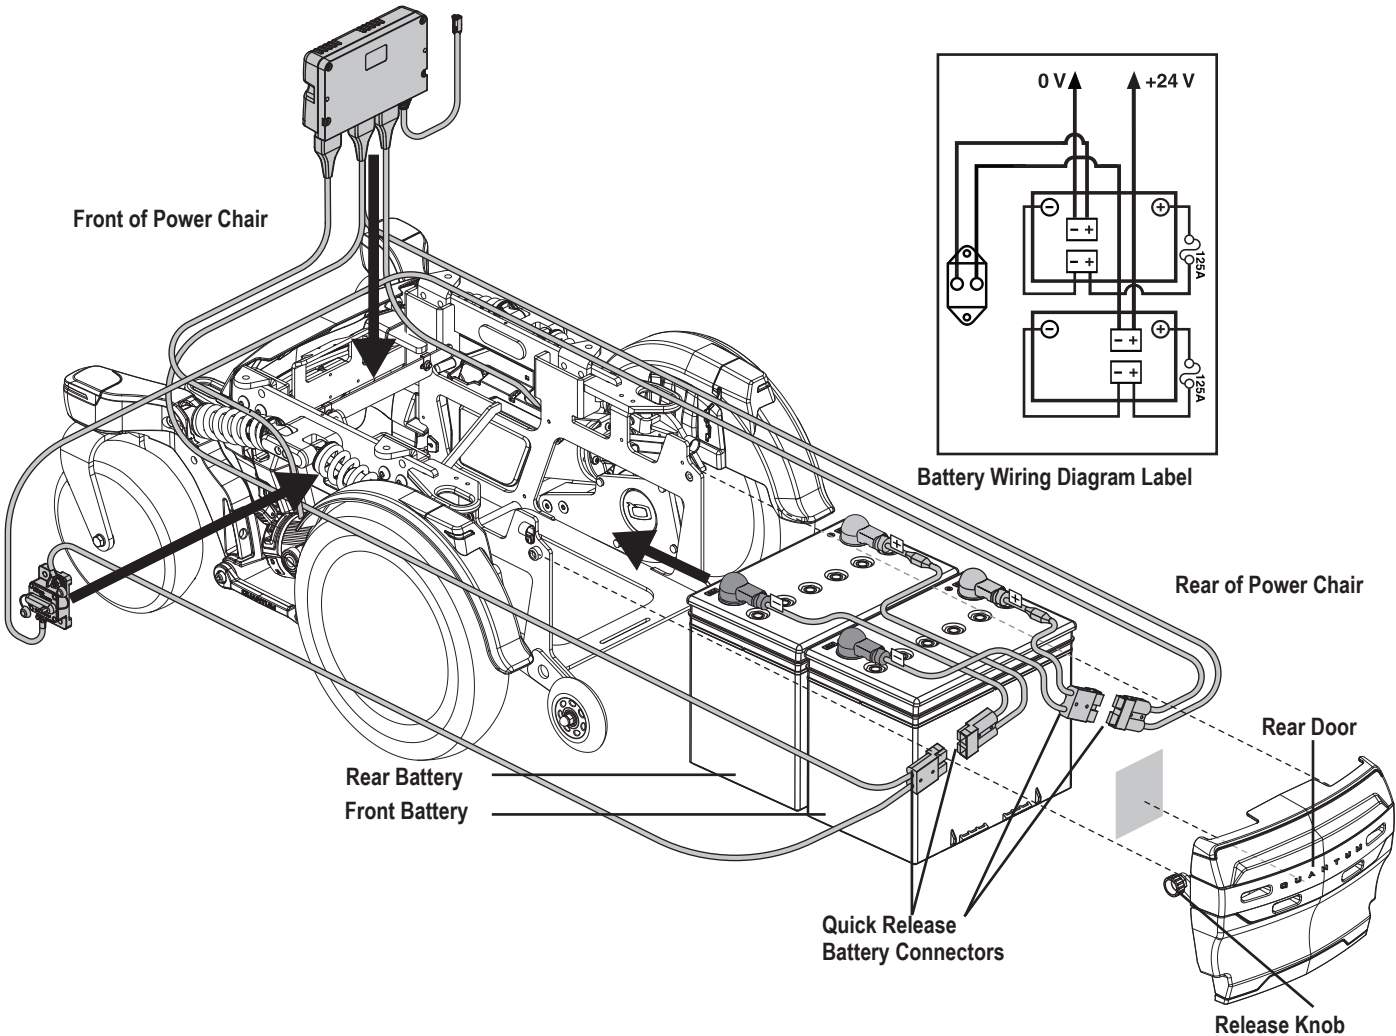

Figure 12. Battery Installation
3. Remove the front cover by squeezing the release handles (**see figure 12**) and lifting the front cover up and away from the power base.
4. Disconnect the quick release battery connectors. **See figure 12.**
7. Connect the battery harness to the new front battery according to the battery wiring diagram. **See figure 12.**
8. Connect the battery harness to the new rear battery according to the battery wiring diagram. **See figure 12.**